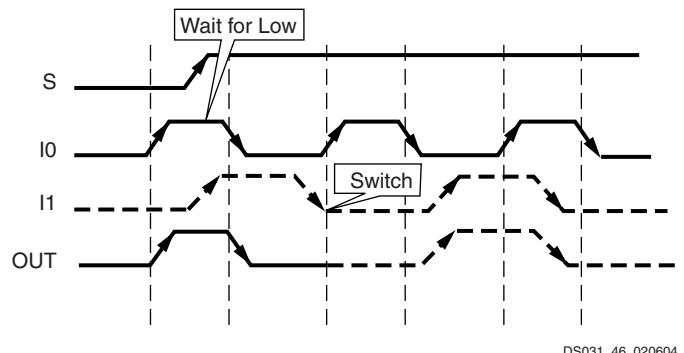

Figure 44: Clock Multiplexer Waveform Diagram
**Figure 44** shows a switchover from I0 to I1.